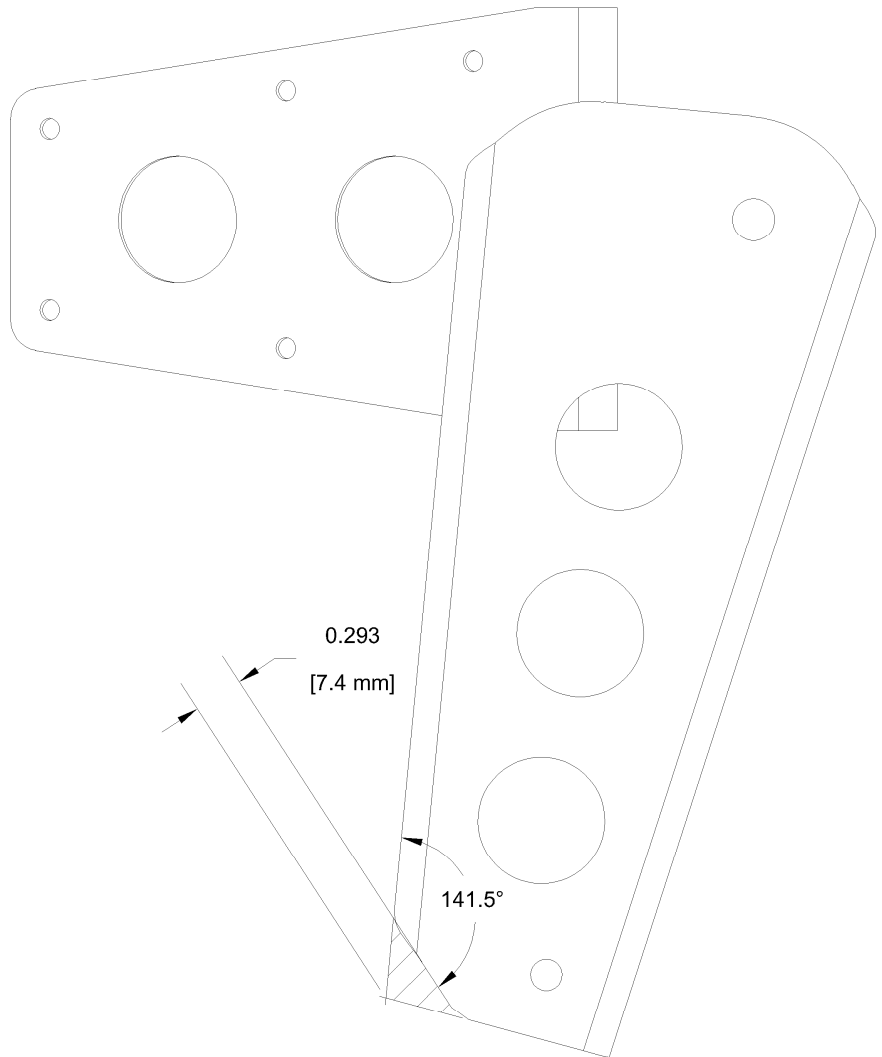

FIGURE 6: TRIMMING THE ELEVATOR HORNS
Step 13E: If applicable, trim the lower aft corner of the WD-605-Elevator Horn as shown in Figure 6. Deburr and prime the trimmed edge.